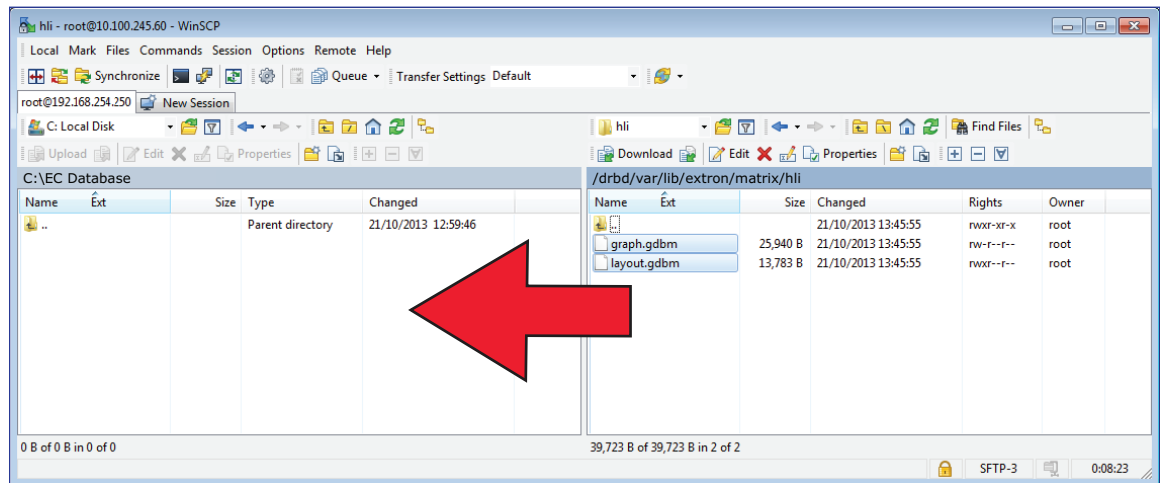

Figure 170. Copy Graph Files to PC User Folder
7. In the right pane, browse to the `/drdb/var/lib/extron/matrix.hli` folder (see figure 170).